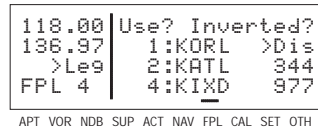

Figure 4-104
1. Use the right outer and inner knobs to select the desired flight plan page (figure 4-104).